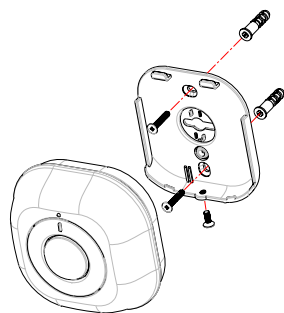
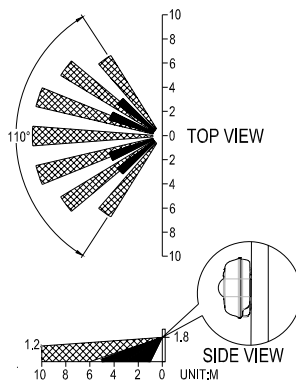
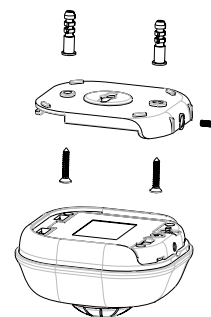
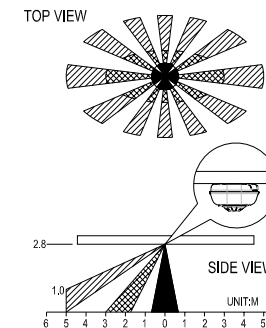

FIGURE 4a
FIGURE 4b
FIGURE 5a
FIGURE 5b
- Two ways of mounting are applicable to the detector. Decide the detector is to be wall-mounted (FIGURE 4a) or ceiling-mounted (FIGURE 5a) based on the coverage angles shown in FIGURE 4b and FIGURE 5b. Hold the rear cover in position and mark the two mounting holes. Drill the holes, insert the plastic wall plugs and screw the rear cover to the wall or ceiling using the screws supplied.
The recommended position for wall mounting is at the height of 1.8m (5.91 ft) from the floor. At this height, the optimum detection range is up to 10m (32.81 ft) with coverage range of 110 degrees (FIGURE 4b).
The recommended position for ceiling mounting is at the height of 2.8m (9.19ft) from the floor. At this height, the optimum detection range is up to 5m (16.41ft) with coverage range of 360 degrees (FIGURE 5b).